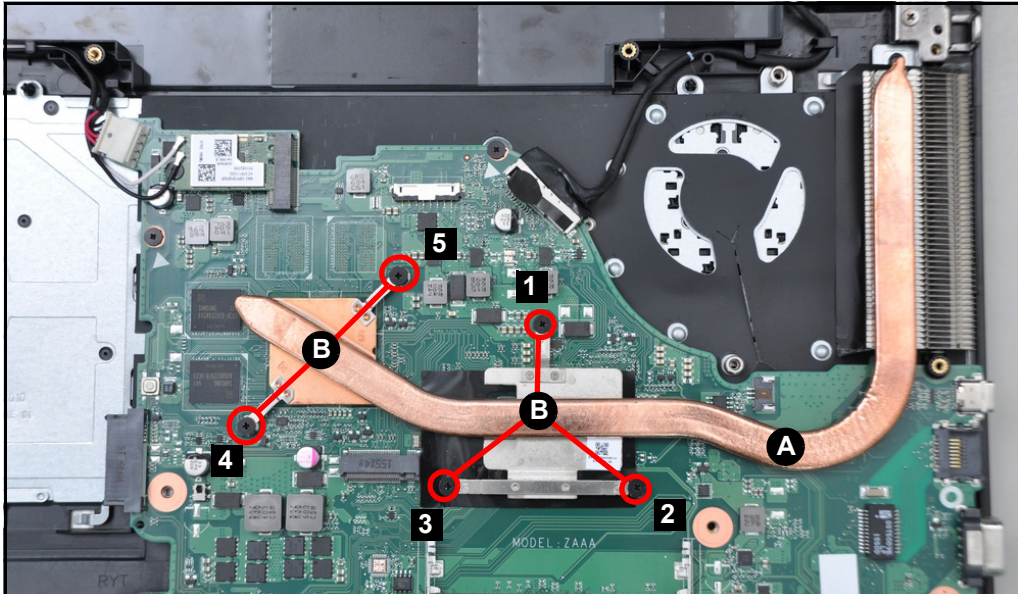

Figure 3-33. Heatsink (Discrete) Removal
1. Find the heatsink (A) on the mainboard (Figure 3-33).
2. Remove five (5) screws (B) in reverse numerical order from five (5) to one (1) securing the GPU and CPU heatsink in place (Figure 3-33).